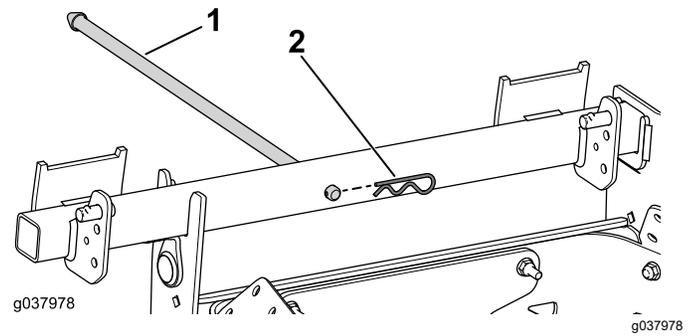

Figure 25
1. Install hold-down rod to the pivot assembly (Figure 25).
2. Use the hairpin cotter to secure the rod into the pivot assembly (Figure 25).